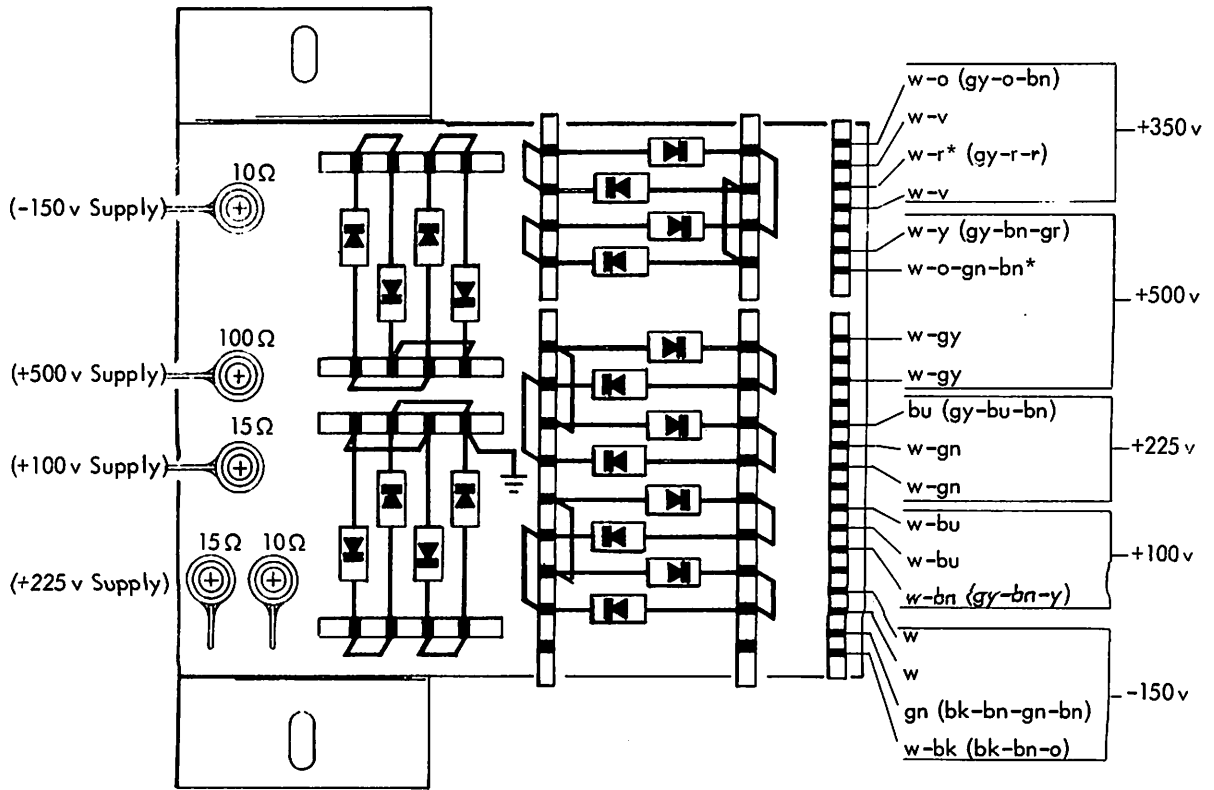

FIG. 5
- ( ) 5. Solder all wires that were removed from the selenium rectifiers to the ceramic strips, as shown in Fig. 5.